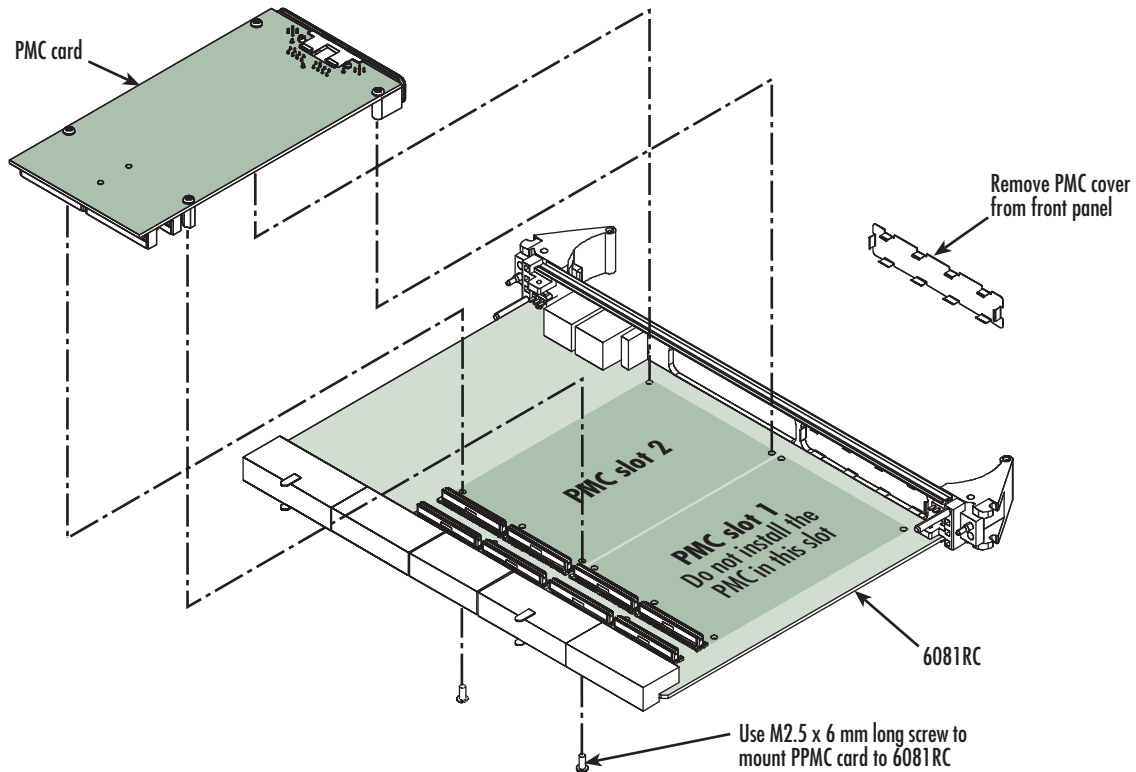

Figure 5. Installing the PMC card
You may purchase an optional PMC Ethernet Access Module for the Model 6081RC. The PMC Ethernet Access Module may be factory installed, or you may order it separately for installation in the field. The Model 6081RC has two PMC expansion slots, numbered 1 and 2 (see figure 5). The PMC Ethernet Access Module must only be installed in PMC slot 2, *do not install it in PMC slot 1*.
2. Remove the PMC slot 2 protective cover from the Model 6081RC front panel (see figure 5 on page 22).
4. Align the two connectors on the PMC card with the corresponding connectors on the Model 6081RC (see figure 5 on page 22).
6. Install the 4 fastening screws as shown in figure 5 on page 22. Gently tighten the screws into place.